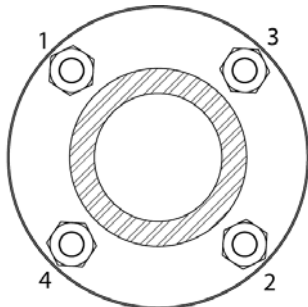
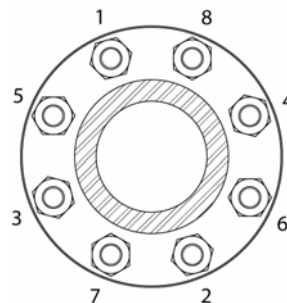

Figure 9 – Bolt tightening sequence for flanges using 4 bolts
Figure 10 – Bolt tightening sequence for flanges using 8 bolts
8. Tighten the bolts approximately 30% to the final torque following the sequence shown in Figure 9 and Figure 10.